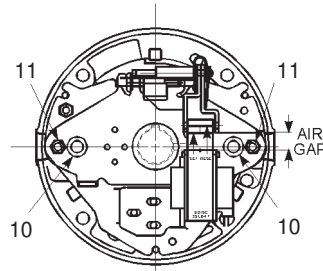

Figure 6
Turn both spring adjustment screws (11), Figure 6, equal amounts counterclockwise to decrease torque. See Table A for torque reduction permissible amounts.